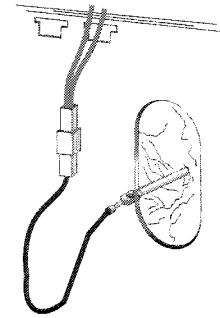

Fig. 7
3. Carefully pull the temperature probe forward far enough to access the wiring harness connector and disconnect the wiring harness connector from the temperature probe plug. (Fig. 7)